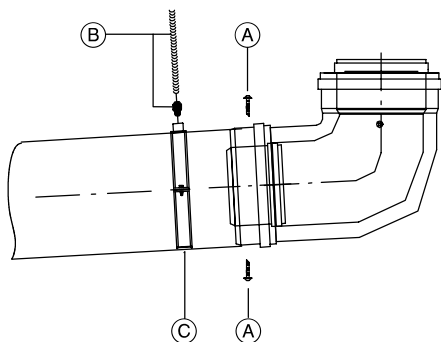
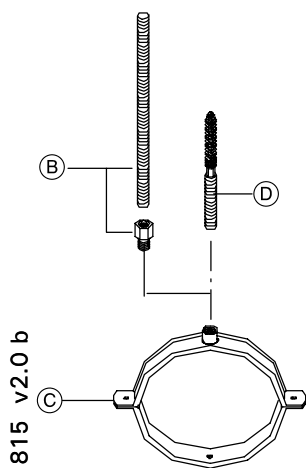

Fig. 12
Fig. 13
The venting system must be securely supported by an anchoring system suitable for the weight and design of the materials employed. To do so, use supplied mounting clips (see © fig. 12, and fig. 13).
- maximum distance of 3 1/4"/82.5 mm (see fig. 13).
If a longer anchoring system is required use brass adaptors M8 x 5/16" (supplied) with 5/16" all-threaded rods (B) (field supplied) (see fig. 13).